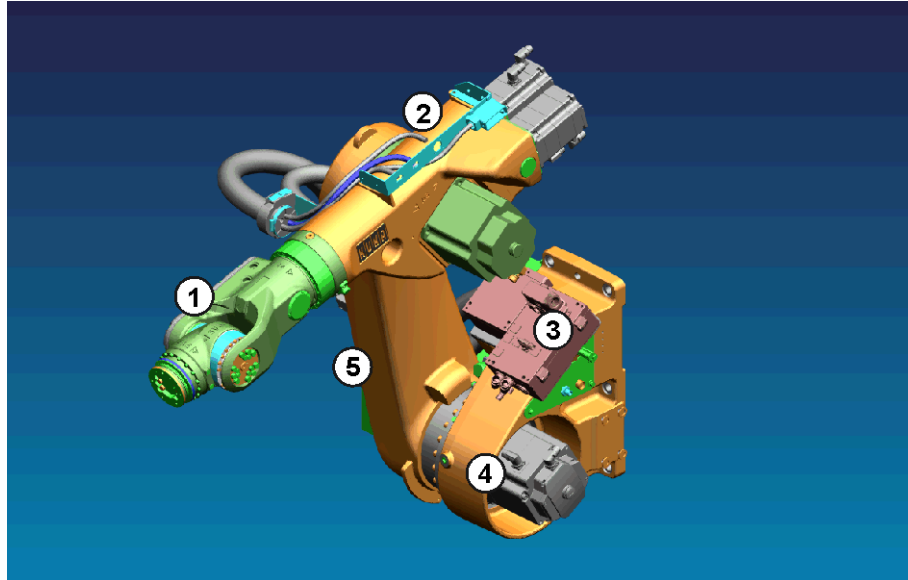

Fig. 3-3: Main assemblies of the KR 30, 60 JET ROBOT
JET ROBOT arm The robot arm (>>> Fig. 3-3) consists of the following principal components:
In-line wrist The robot (>>> Fig. 3-3) is fitted with a 3-axis in-line wrist (1). The in-line wrist contains axes 4, 5 and 6. For attaching end effectors (tools), the in-line wrist has a mounting flange.